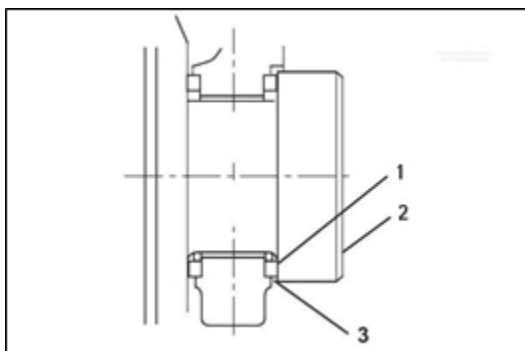

Figure 102.
METHOD B: Use a feeler gauge to measure the clearance (Figure 102, item 3) between the thrust bearing (Figure 102, item 1) and crankshaft (Figure 102, item 2). Record the measurement. See *Thrust Bearing specifications* for the service limit.